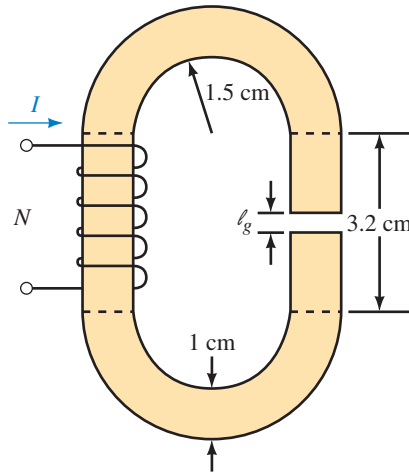

FIGURE 12-49
19. The cast iron core of Figure 12-49 measures $1\text{ cm} \times 1.5\text{ cm}$, $\ell_g = 0.3\text{ mm}$, the air gap flux density is 0.426 T and $N = 600$ turns. The end pieces are half circles. Taking into account fringing, find current I .